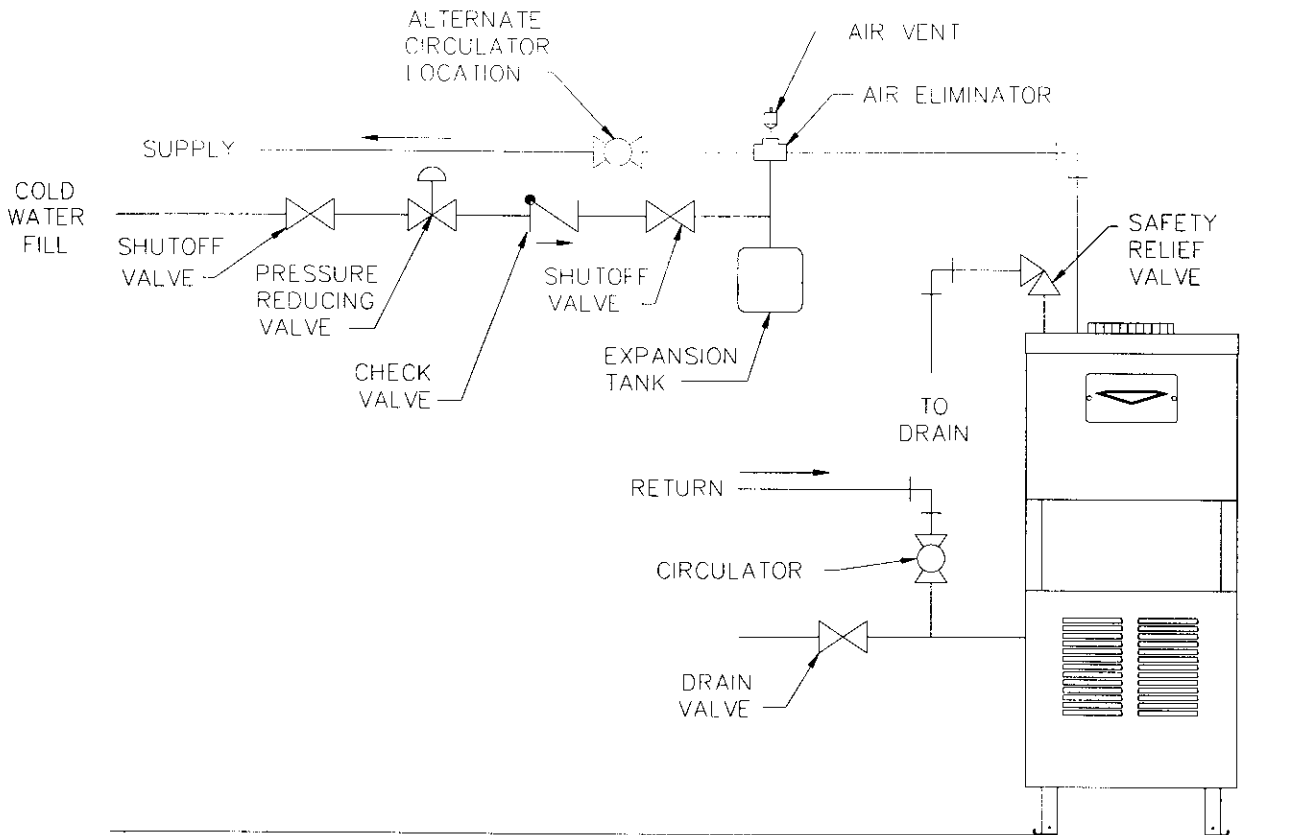

Figure 5: Supply and Return Piping
1. Size the supply and return to suit the system. A typical piping arrangement is shown in Figure 5. Refer also to the I=B=R Installation Guide No. 200 and the Peerless Water Survey for additional guidance during water piping installation.
5. If desired, install the circulator in the alternate location shown in Figure 5. Consult the Peerless Water Survey for more information on circulator location.
Refer back to Figure 5 for typical expansion tank piping.